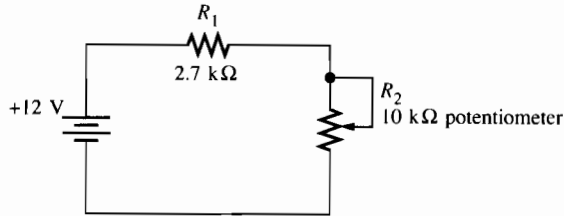

Figure 6–1
2. Construct the circuit shown in Figure 6–1. R_2 is a 10 k Ω potentiometer. Connect the center (variable) terminal to one of the outside terminals. Use this and the remaining terminal as a variable resistor. Adjust the potentiometer for 0.5 k Ω . (Always remove power when measuring resistance and make certain you are measuring only the potentiometer's resistance.)